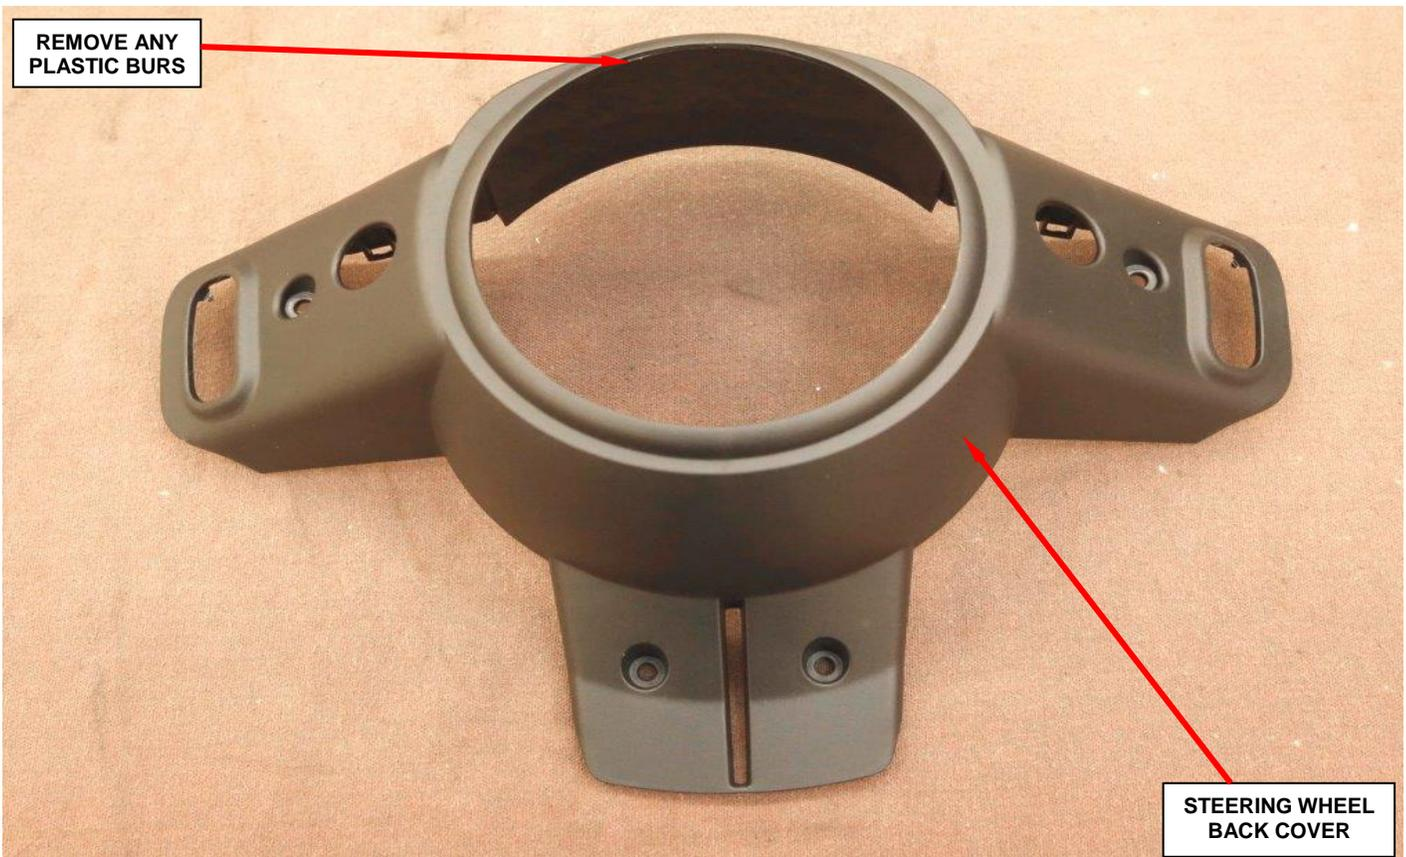

Figure 10 – Steering Wheel Back Cover
24. Install the new steering wheel back cover to the original steering wheel (Figure 10).